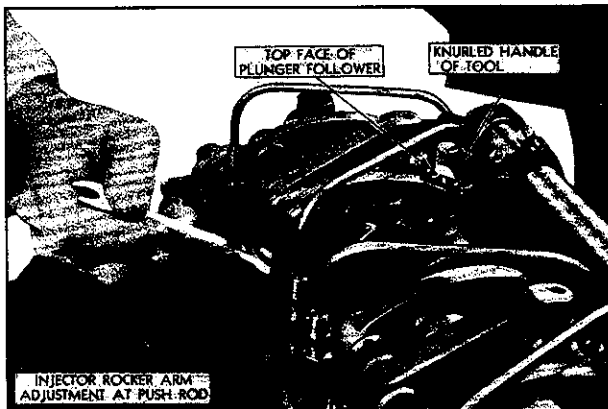

Fig. 19—Timing Fuel Injector with Timing Gauge.
4. Place injector timing gauge in timing gauge hole on the top of the injector body, as shown in Fig. 19.